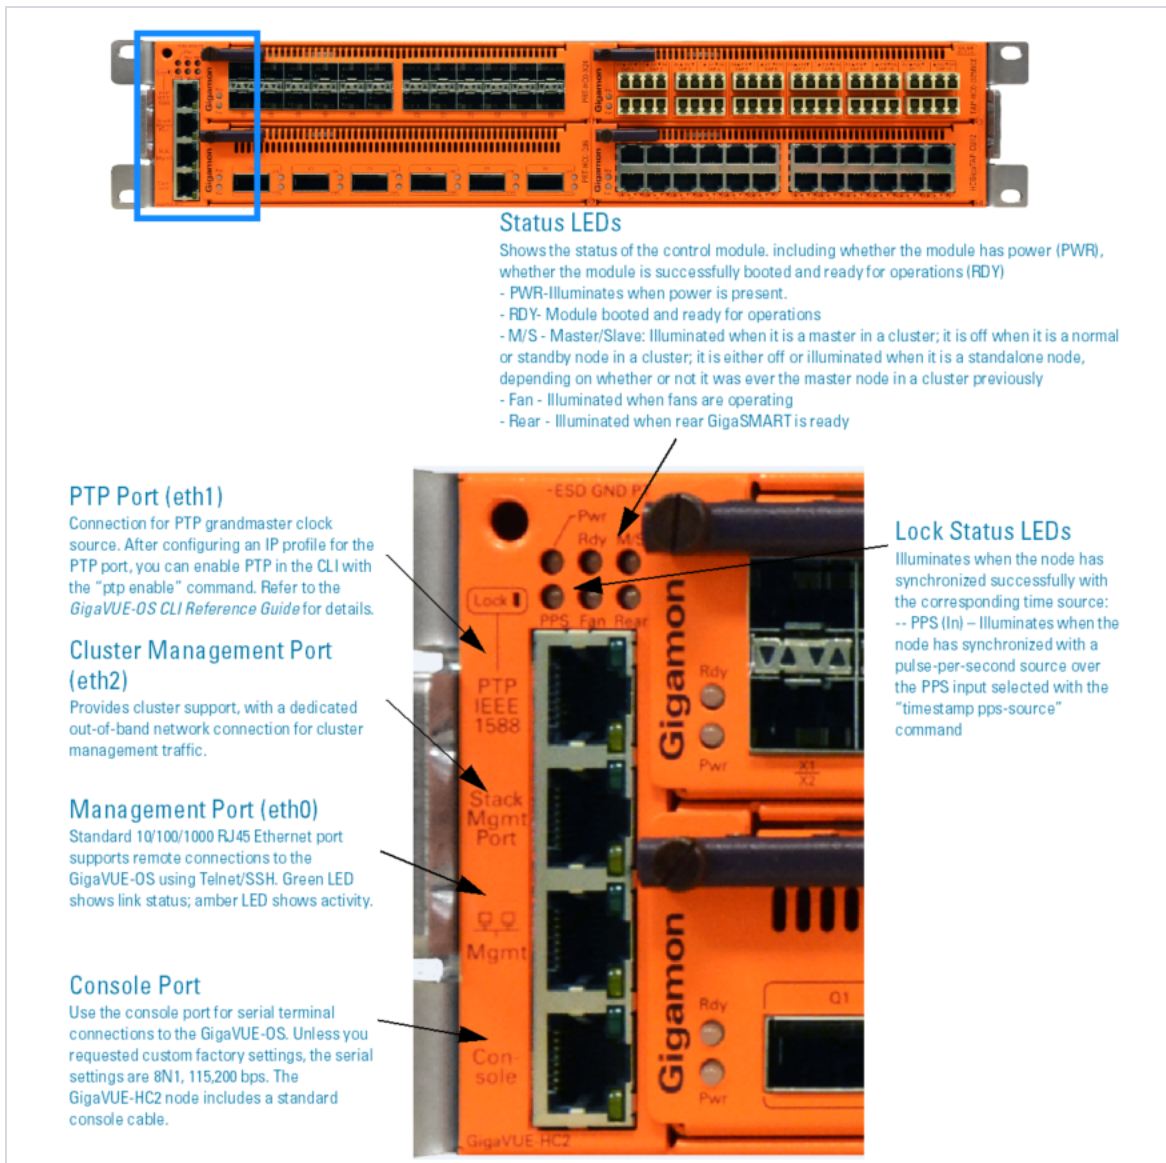

Figure 3: GigaVUE-HC2 Management Ports
- Has the same ports and status LEDs as shown in Figure 3: GigaVUE-HC2 Management Ports on page 10.